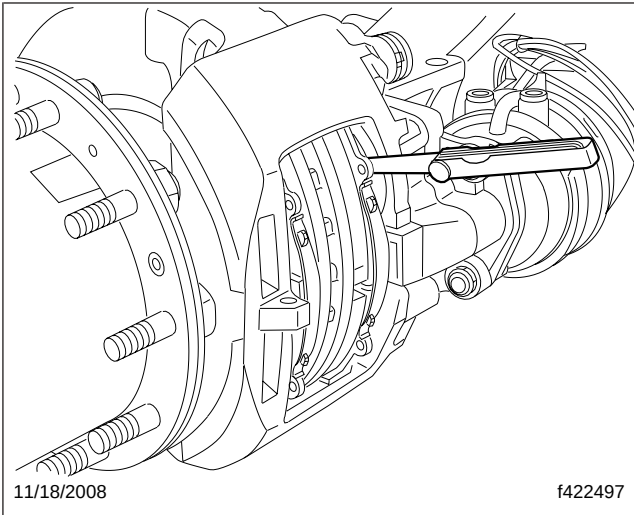

Fig. 7, Checking Brake Pad Running Clearance
6. Set the total running clearance (sum of clearances on both sides of the rotor), between 0.024 to 0.043 in (0.6 to 1.1 mm). See **Fig. 7**.